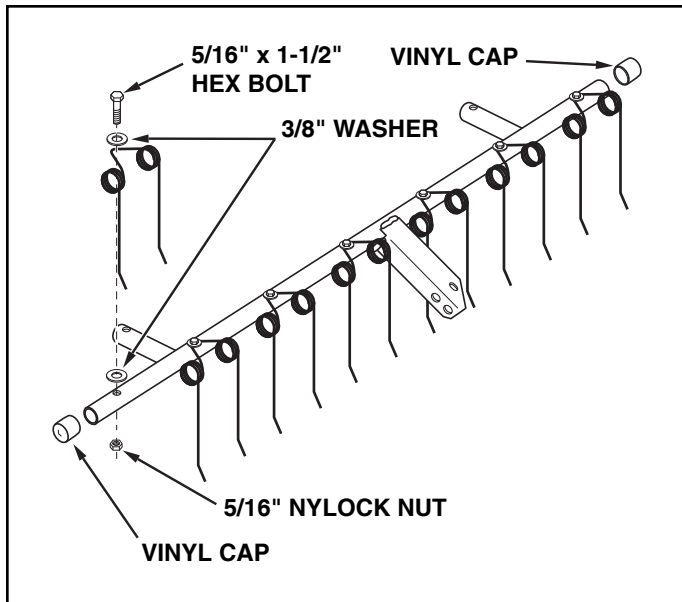

FIGURE 1
1. Turn the frame assembly as shown in figure 1.
2. Assemble seven spring tines to the top of the frame tube. Use a 5/16" x 1-1/2" hex bolt, two 3/8" flat washers and a 5/16" nylock nut for each spring tine. Place one 3/8" flat washer on top of the frame tube and the second 3/8" flat washer on top of the spring tine. See figure 1.
3. Assemble a vinyl cap onto each end of the frame tube. See figure 1.